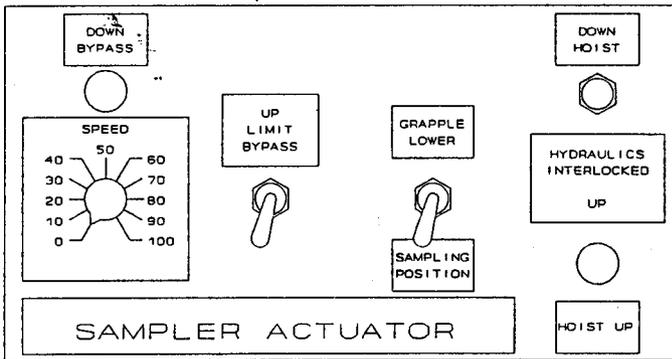

Figure 9) Drill Rig Actuator Controls
7.3.2.2 SET the motor speed control on the SAMPLER ACTUATOR panel to the 40 position. (Refer to Figure 9 below for the Actuator Controls.)